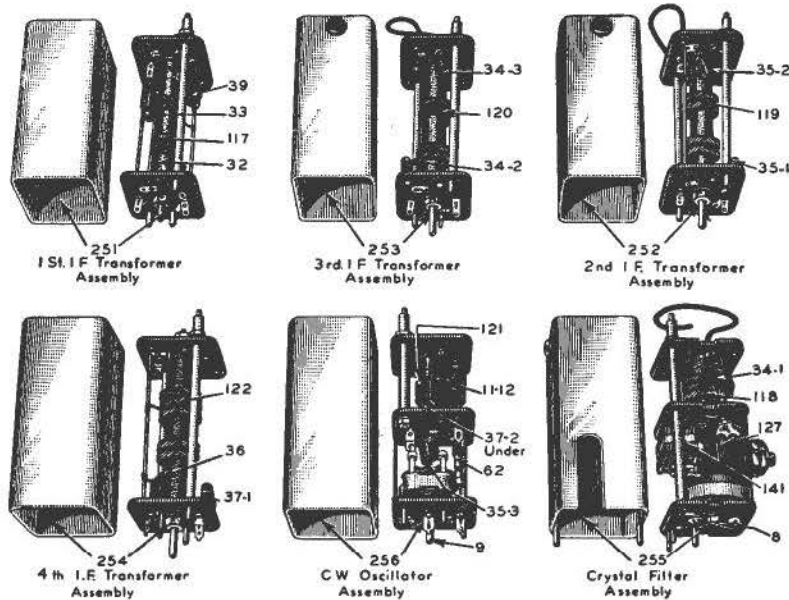

Figure 109. Liaison Receiver Coil Assemblies
vicinity of 915 KC and having also an attenuator with a multiplier of 10 times (20 db) is required. The following procedure is recommended: Connect a microammeter with a range of approximately 200 microamperes in series with a cathode return of the "AVC" volume control (79-B white lead). Throw the crystal switch to the "IN" position, and with the unmodulated 915 KC input from the test oscillator find the resonance peak of the crystal by slightly retuning the test oscillator until maximum deflection is indicated on the microammeter. The phasing control (8) Figure 109 is adjusted until the resonance curve as indicated on the microammeter is symmetrical and free from dips or peaks except for the main resonance peak of the crystal. The band width with an input voltage ratio of 10X is adjusted
to approximately 2 KC by slight realignment of the secondary (top) tuning core of the 1st IF Transformer (251) Figures 109 and 119. After concluding the above described tests, remove the microammeter and restore the circuit to normal.